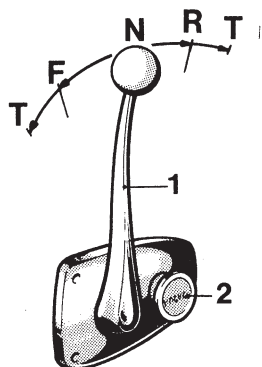

Fig. 6. MV kombinerat varvtals- och manöverreglage för MS-backslag
1. Move the control lever to the neutral position so that the shift mechanism disengages, see the directions given in Fig. 6. Push in the stop control for the injection pump, if one is fitted.
7. Move the control lever to neutral in order to engage the shift mechanism (see Fig. 6). The boat is now ready for operation.